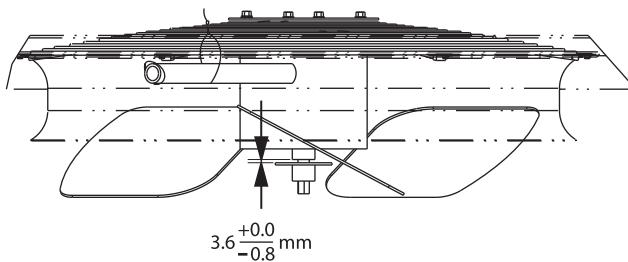

Fig. 14 — Condenser Fan Adjustment
4. Adjust fan height as shown in Fig. 14.